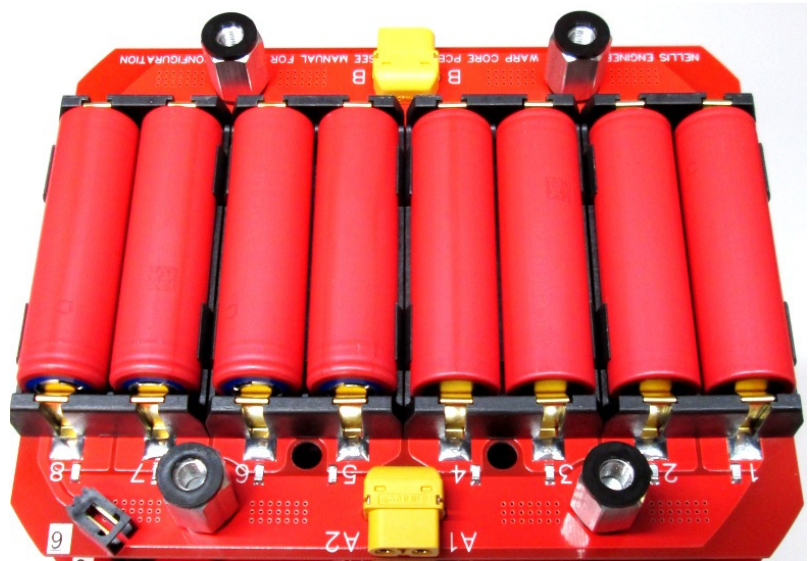

Figure 38
24. Place 4 black plastic 1/16" (1.6mm) thick washers, one on each threaded spacer, as shown in Figure 38.